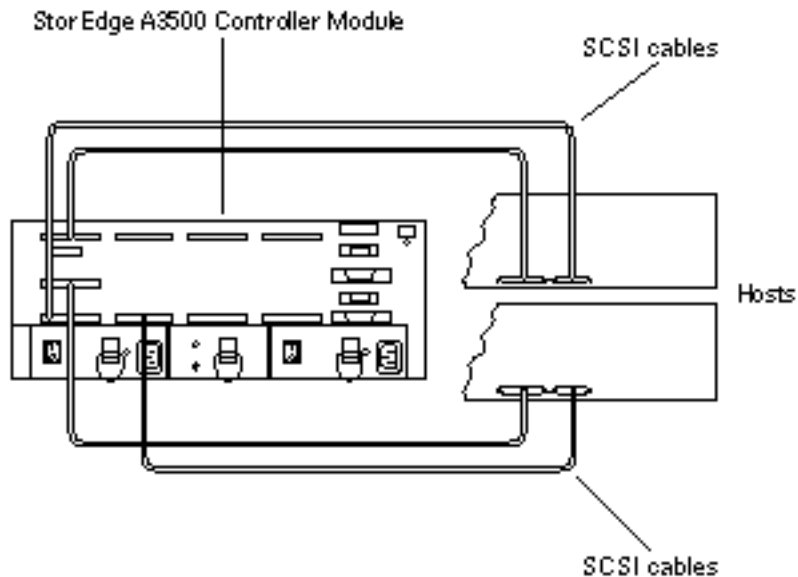

Figure 7-1 Example of a StorEdge A3500 disk array
3. Cable, power on, and configure the disk array as shown in Figure 7-1.